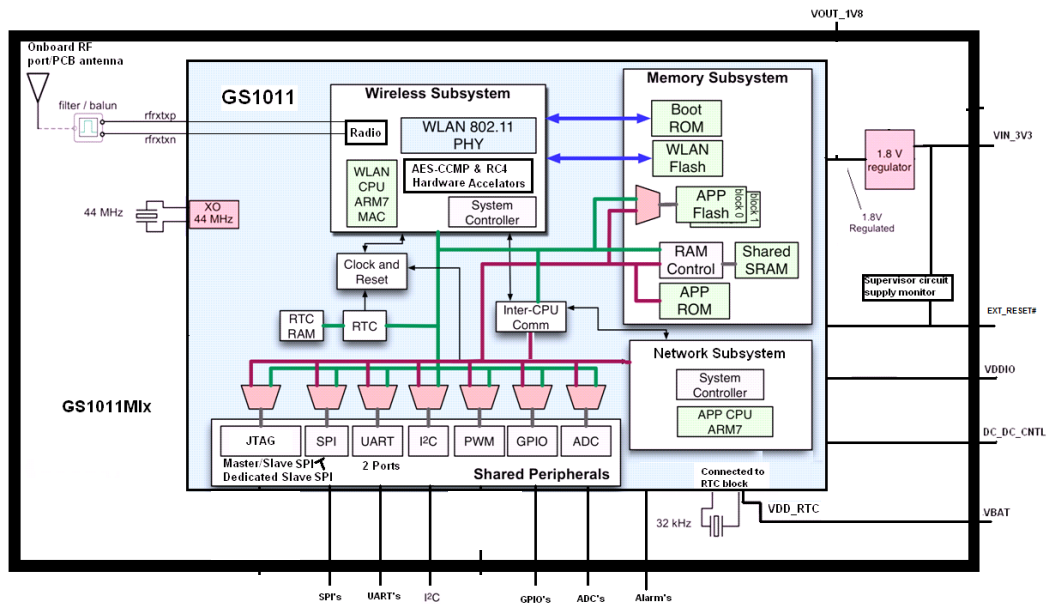

Figure 2-1: GS1011MIPS/GS1011MIES Block Diagram
- The low power module option has a capability of +8dBm output power at the antenna (see Figure 2-1).